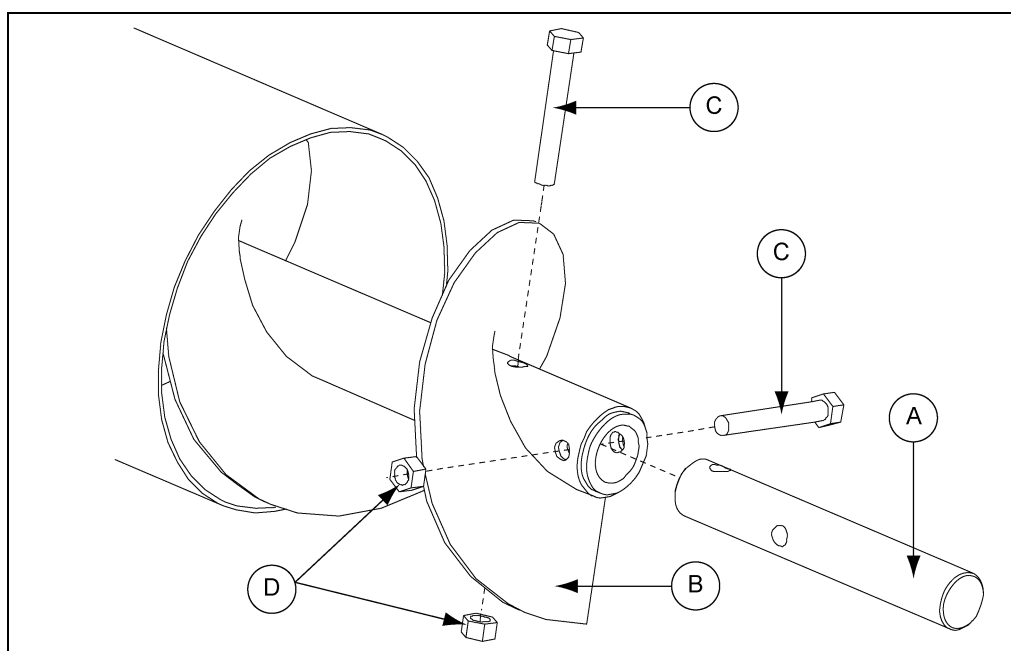

Figure 4V
1. Begin by assembling the intake shaft (A) to the flight (B) using the required grade 8 bolts (C) and stover nuts (D). (See Chart below and Figure 4V.)